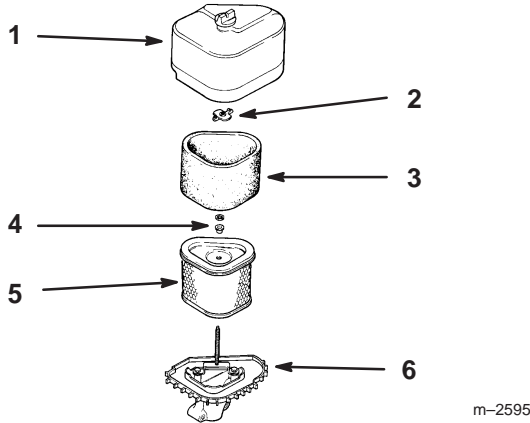

Figure 27
- Clean around the air cleaner to prevent dirt from getting into the engine and causing damage. Unscrew the cover nut and remove the air cleaner cover (Fig. 27).
- Remove the air cleaner assembly (Fig. 27).
- Carefully slide the foam element off the paper element (Fig. 27).
- Carefully slide the foam element onto the paper air cleaner element (Fig. 27).
- Place the air cleaner assembly onto the air cleaner base (Fig. 27).
- Install the air cleaner cover and secure with cover nuts (Fig. 27).